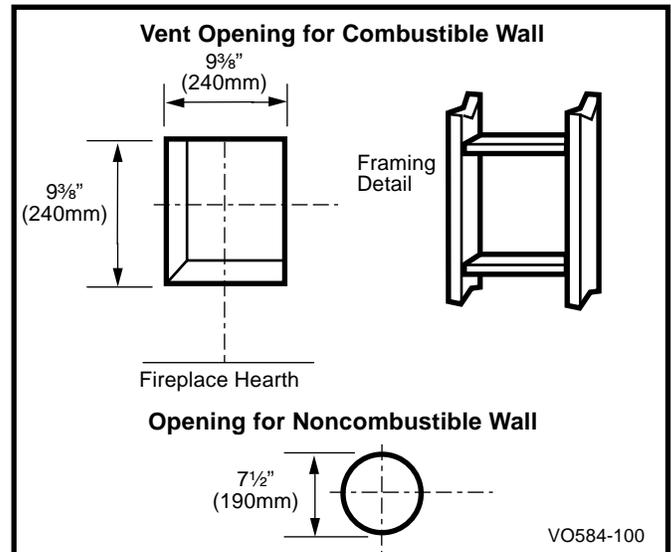

Fig. 17 Locate vent opening on wall.
Locate vent opening on the wall. It may be necessary to first position the fireplace and measure to obtain hole location. Depending on whether the wall is combustible or noncombustible, cut opening to size. (Fig. 17)
Combustible Walls: (Fig. 17) Cut a 9³/₈"H x 9³/₈"W (240 x 240mm) hole through the exterior wall and frame as shown.
Noncombustible Walls: (Fig. 17) Hole opening must be 7¹/₂" (190mm) in diameter.
1. Establish vent hole through the wall. (Fig. 17)